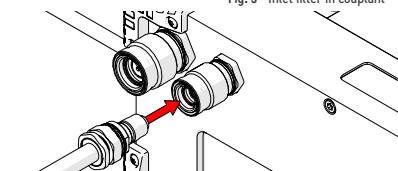

Fig. 4 - Connect irrigation kit to outlet hose
3. Connect the irrigation kit (sold separately) to the outlet (Fig. 4).